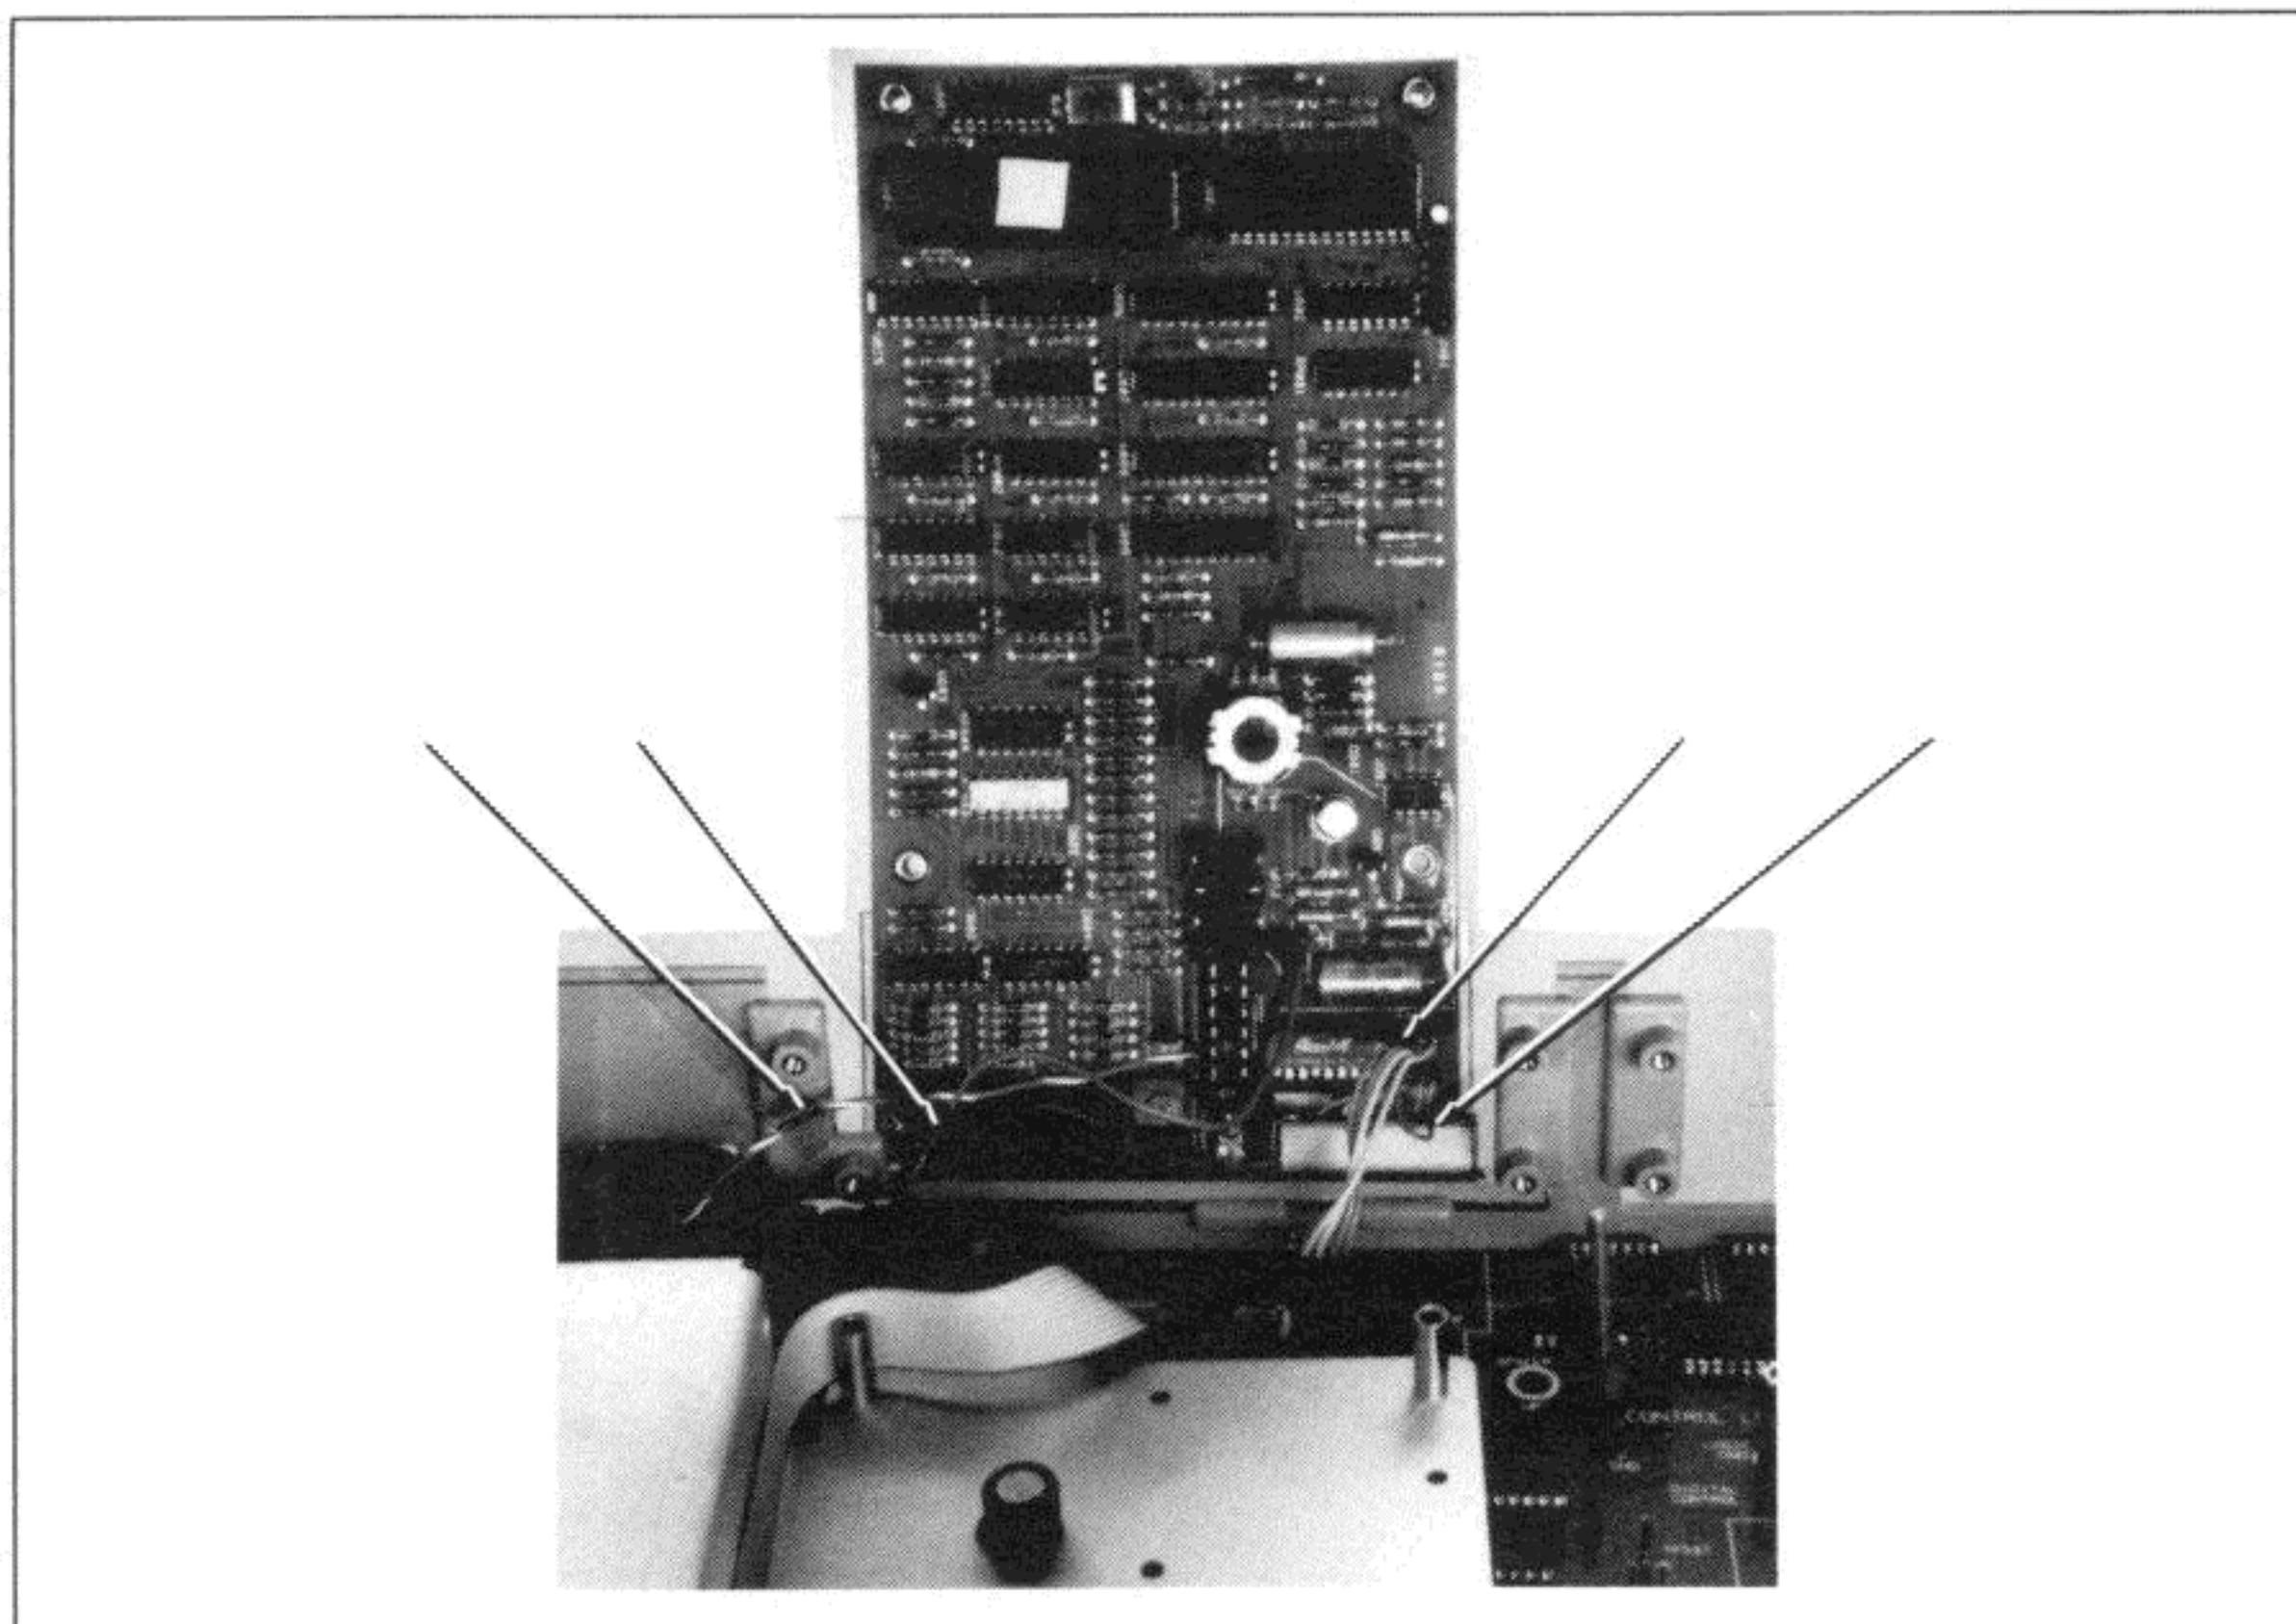

Figure 1-8-13. Connect HP-IB Option Wires/Cables
e. If your instrument is equipped with HP-IB, refer to Figure 1-8-13 and plug the various cables and wires between the HP-IB option and motherboard as follows: